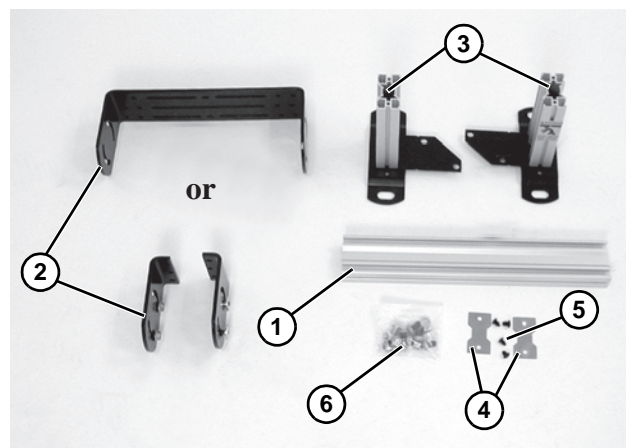

Figure 2
1. Typical components (**Figure 2**).
2. Open fastener bag (**Figure 2, item 6**).